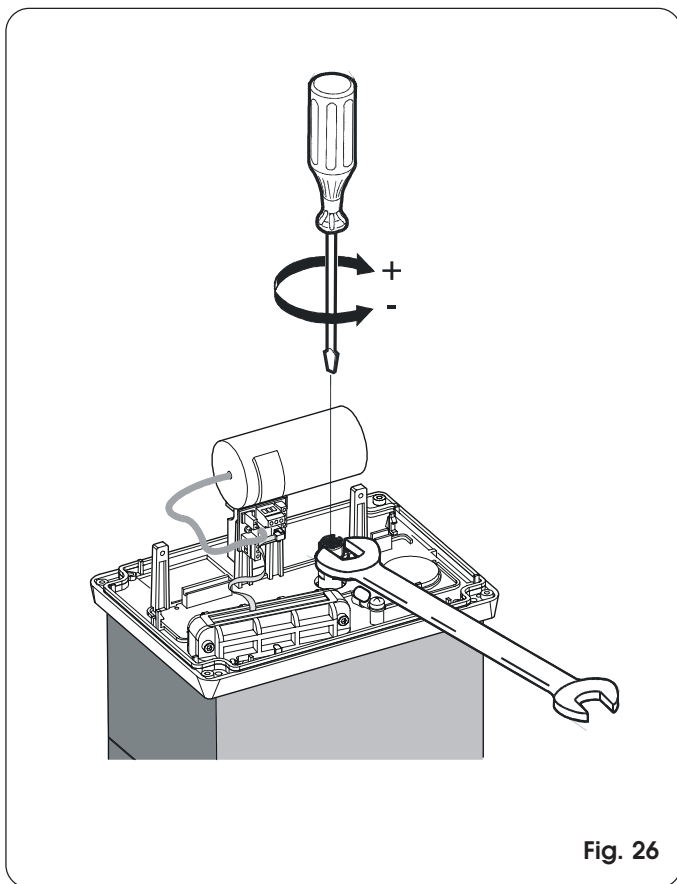

Fig. 26
- 2) Keep the motor shaft locked with a wrench, and turn the clutch adjustment screw with an Allen wrench or screwdriver Fig. 26.